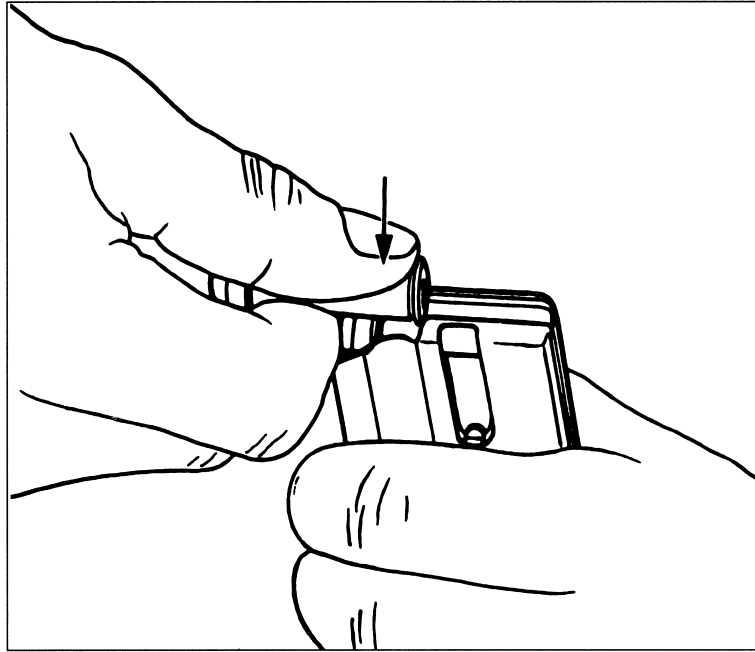

fig. 6
1. With the magazine in an upright position, place the cartridge rim on the magazine follower, in front of the magazine lips (fig. 6).